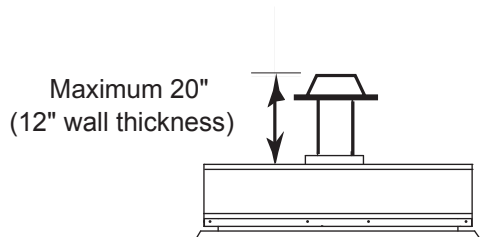
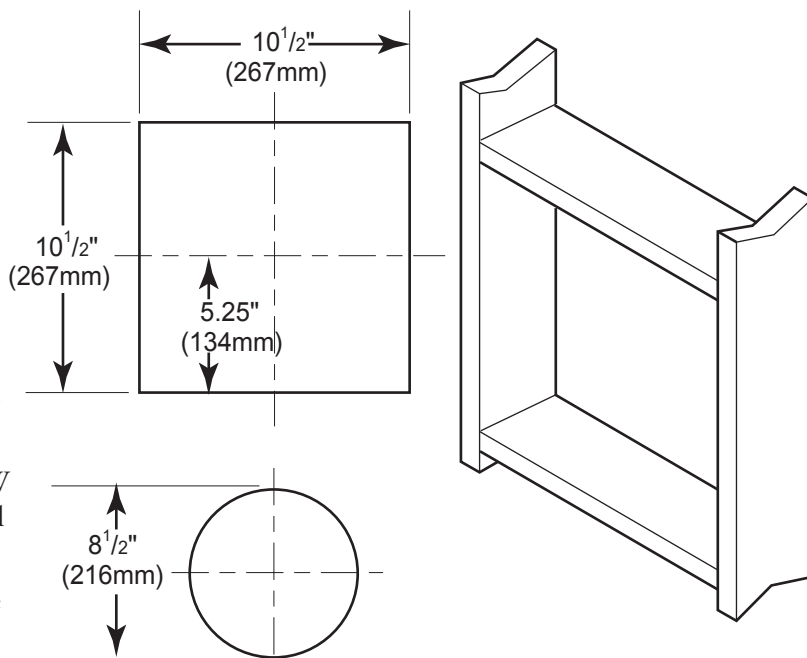

Figure 11 - Rear Vent Application, Maximum Horizontal Distance
Figure 12 - Vent Opening Requirements
- The maximum horizontal distance between the rear of the appliance and the outside of termination is 20" (508 mm). See *Figure 11*.
1. Locate and cut the vent opening in the wall. For combustible walls first frame in opening. See *Figure 11*.
Combustible Walls: Cut a 10½"H x 10½" W (267mm x 267mm) hole through the exterior wall and frame as shown. See *Figure 12*.
3. Attach vent pipe assembly to the fireplace. Set fireplace in front of its permanent location to insure minimum clearances. Mark the wall for a 10½"H x 10½"W (241mm x 241mm) square hole (for noncombustible material such as masonry block or concrete, a 8½" [216mm] diameter hole is acceptable). See *Figure 11*. The center of the hole should line up with the center line of the horizontal rigid vent pipe end. Be sure to allow for minimum rise. Cut a 10-1/2"x10-1/2" (267mm X 267mm) square hole through combustible exterior wall (8½" [216mm] diameter hole if noncombustible). Frame as necessary. Allow ¼" minimum rise per foot. See *Figure 12*.
1. Establish vent hole through the wall. *See Figure 12, page 17.*